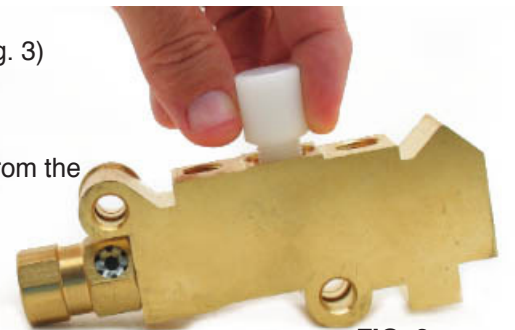

FIG. 3
3. Screw the valve tool prop valve lock into the sensor switch hole on the prop valve. (Fig. 3)